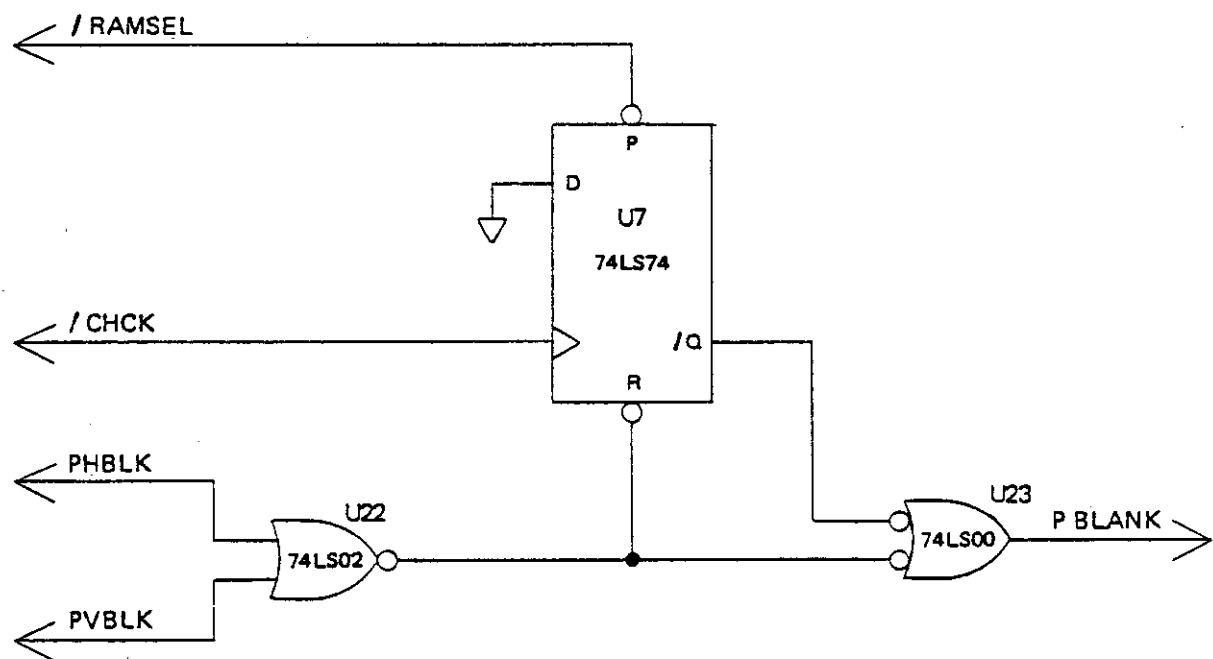

FIGURE III-10 BLANKING GENERATION
6) BLANKING GENERATION: The horizontal blanking signals (PHBLK and PVBLK) are generated as described above. They are combined in the circuit shown in Figure III-10. In addition this circuit blanks the display when the refresh memory is accessed by the computer. PHBLK and PVBLK are OR'ed with the output of a 74LS74 flip-flop. The flip-flop is set by a computer access of the refresh memory (/RAMSEL low) and is reset by either /CHCK making a low-high transition or by either PHBLK or PVBLK being high. The result is that the circuit output PBLANK is high whenever PHBLK or PVBLK is high and during the short interval when a normally unblanked character is interrupted by a memory access.